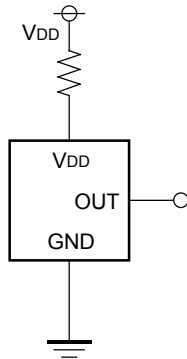

Figure 9
- In Figure 9, When R3113Dxx1C is used, and if an impedance is connected between Voltage Supplier and the V_{DD} Pin of R3113Dxx1C Series, the operation might be unstable by cross conduction current at detection.
When R3113Dxx1A is used in Figure 9, if the value of R is set excessively large, voltage drop may occur caused by supply current of IC itself and Detector threshold may vary.